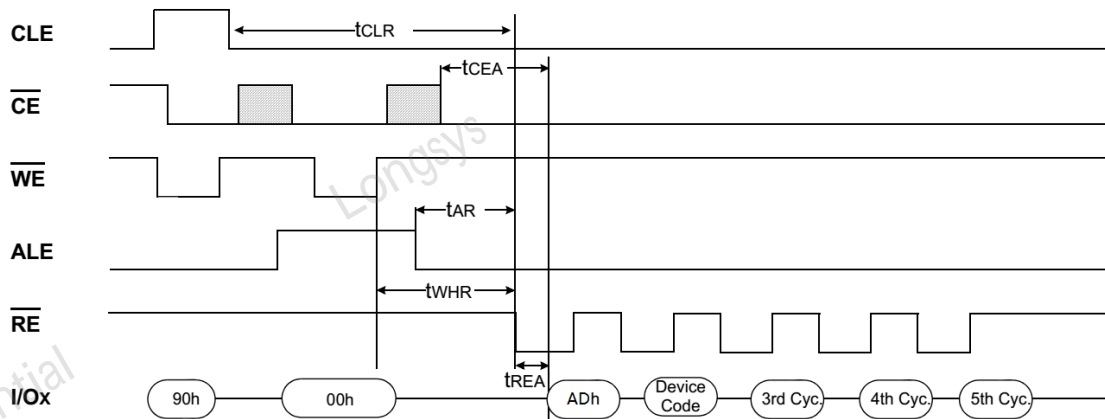

Figure 28 Read ID Operation
- Same restrictions on address of pages C and D, and allowed commands as **Figure 28** apply